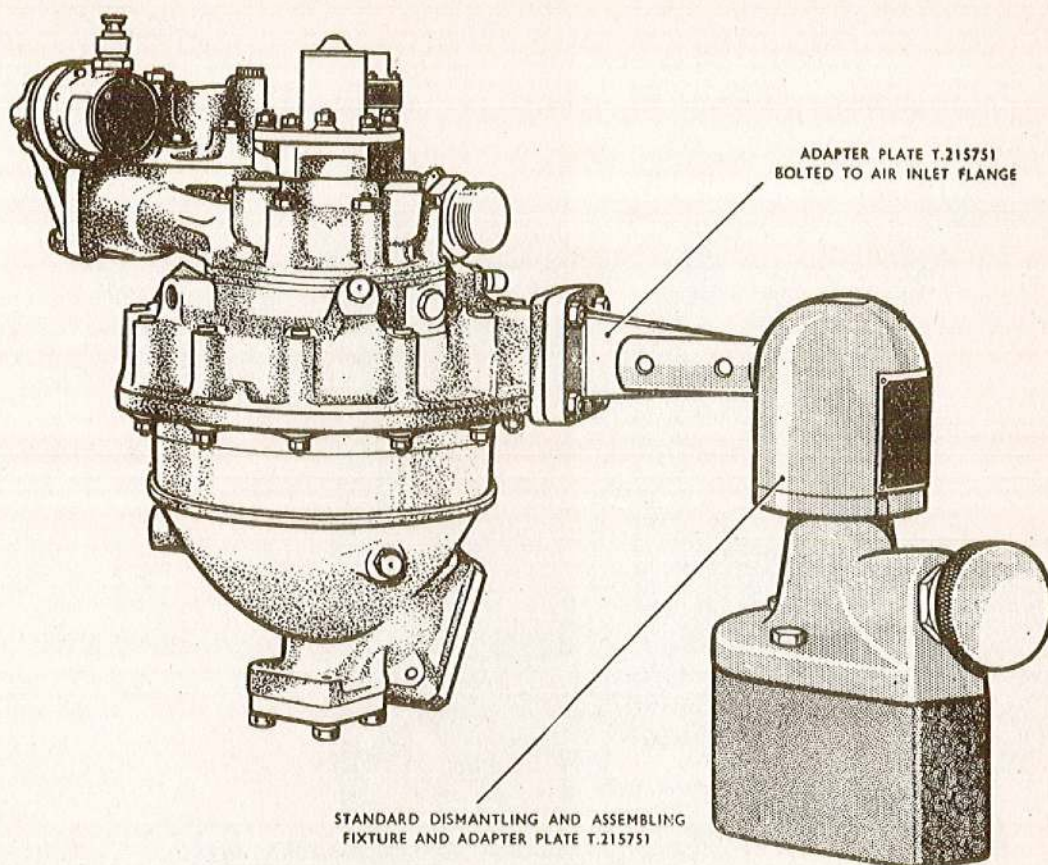

Fig. 2. Dismantling and assembling fixture
18. The pump should be mounted on the fixture T.215751 as shown in fig. 2. The bracket locates on the four studs on the air inlet flange and should be bolted down firmly with nuts and grover washers. A mounting block must be inserted between the base of the clamping fixture and the bench in order to raise the fixture sufficiently to enable the pump to be swung round, when in the horizontal position, without fouling the bench.